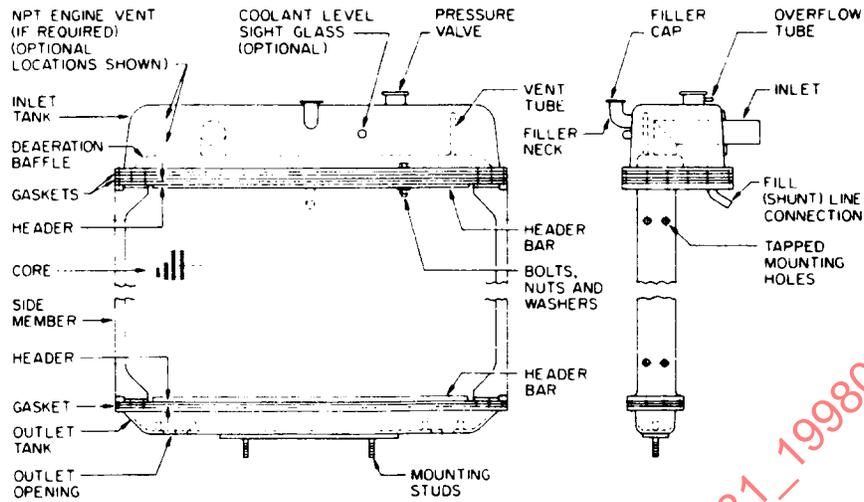

FIGURE 1—BOLTED TYPE RADIATOR, DRAWN TANKS (TYPICAL DEAERATION SYSTEM SHOWN)
- 3.2 **Baffle**—A barrier plate used to direct fluid flow within a tank, as under a filler neck or through an in-tank oil cooler, or to divide a tank into separate chambers, as in a deaeration tank or multi-pass radiator tank. See Figure 1.
3.3 Bolted Radiator—A radiator whose inlet and outlet tanks are bolted to the headers of the core, usually with a gasket seal between tank and header and bolting strips to back up the header. See Figures 1, 2, 3, and 4.
- 3.4 Bolting Strip**—A strip of metal having a series of holes matching the bolting hole pattern of the tanks and headers of a bolted radiator, and placed on the side of the header opposite to the tank and gasket for the purpose of clamping the joint between the tank and header by means of bolts and nuts. Also called Header Bar. Some radiators with very light gauge tanks have bolting strips on the tank flange as well. See Figures 1, 2, and 3.
- 3.15 Deaeration Baffle**—A barrier used to separate chambers in a radiator top tank or auxiliary tank to form a deaeration tank. See Figure 1.
- 3.24 Filler Neck**—The opening into a radiator inlet tank or surge tank through which the cooling system is filled with coolant. Usually formed of drawn sheet metal or molded as part of a plastic tank and designed to accept a cam-lock (bayonet-type) radiator filter cap, but may be a threaded type in some heavy-duty applications. See Figures 1 to 11.
- 3.26 Fill Line**—A fluid conductor connecting the deaeration tank to the cooling system pump in a cooling system with deaeration capability to allow rapid filling of the system. Also called the pump return connection, or the shunt line because it bypasses coolant around the radiator core directly to the pump. See Figure 1.
- 3.27 Header**—A plate to which all of the fluid carrying tubes of the radiator core are connected. There is usually one header at each end of a core. The headers are, in turn, attached to inlet and outlet tanks for the purpose of guiding the fluid to be cooled from the inlet tank through the core tubes to the outlet tank. See Figures 1, 2, 6, 7, 8, and 9.
- 3.42 Pump Return Connection, Line**—See 3.26, Fill Line. See Figure 1.
- 3.43 Radiator Cap, Solid**—A removable device which closes the cooling system fill opening (filler neck). When installed, it permits no leakage under any cooling system operating condition. It must be used in combination with a radiator pressure relief valve. See "Filler Cap" in Figures 1 and 9.
- 3.45 Radiator Pressure Relief Valve**—A device which provides the same features and functions as a radiator pressure cap except that it is not used for system filling. (Some hand tools are required for removal of this valve.) It must be used in combination with a radiator cap, solid. See "Pressure Valve" in Figures 1 and 9.
- 3.49 Riser Tube**—A tube connecting the radiator inlet tank chamber to the deaeration tank chamber. The tube is usually designed to be higher than the normal level of coolant in the deaeration tank, and may have a bent end to direct the deaeration flow to a particular region of the deaeration tank for best deaeration action. Also called a Vent Tube. See Figure 1.
- 3.51 Separator**—See 3.15, Deaeration Baffle. See Figure 1.
- 3.55 Shunt Line**—See 3.26, Fill Line. See Figure 1.